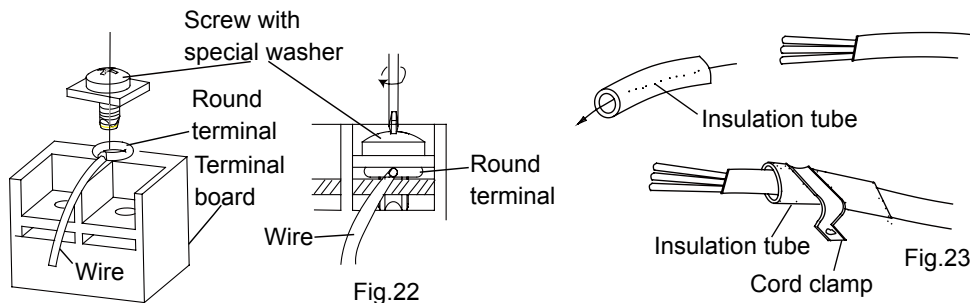

Fig.22
- 4). Position the round terminal wire, and replace and tighten the terminal screw with a screwdriver.(Fig.22)